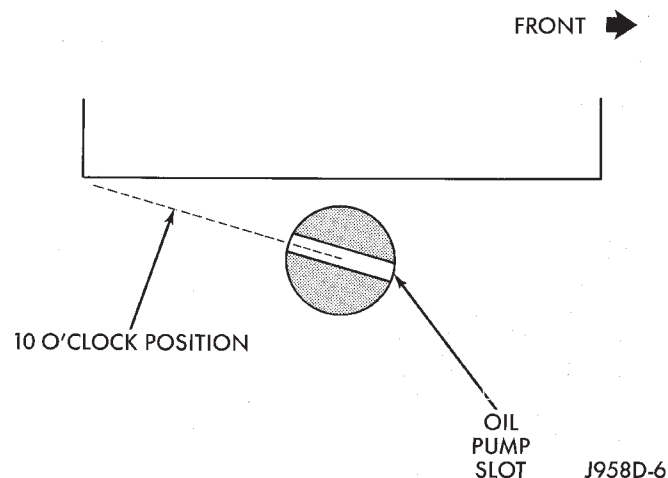
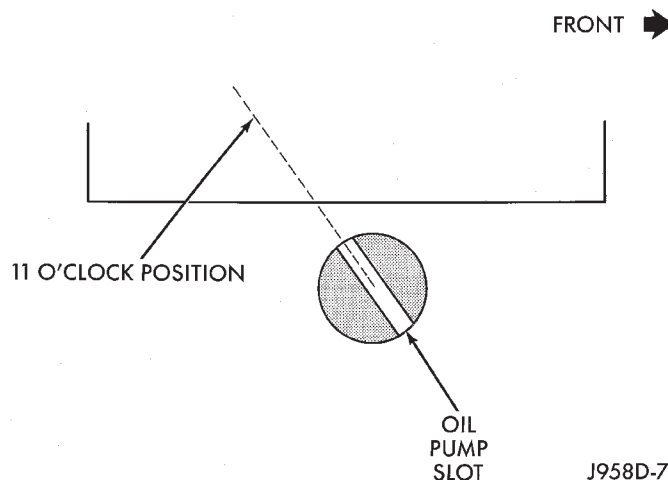

Fig. 36 Slot At 10 O'clock Position—2.5L Engine
Fig. 37 Slot At 11 O'clock Position—4.0L Engine
- (10) Remove the distributor holddown bolt and clamp.
- (11) Remove the distributor from engine by slowly lifting straight up.
- (12) Note that the rotor will rotate slightly in a counterclockwise direction while lifting up the distributor. The oil pump gear will also rotate slightly in a counterclockwise direction while lifting up the distributor. This is due to the helical cut gears on the distributor and camshaft.
- (13) Note the removed position of the rotor during distributor removal. During installation, this will be referred to as the Pre-position.
- (14) **2.5L 4-Cylinder Engine:** Observe the slot in the oil pump gear through the hole on the side of the engine. It should be slightly before (counterclockwise of) the 10 o'clock position (Fig. 36).
- (15) **4.0L 6-Cylinder Engine:** Observe the slot in the oil pump gear through the hole on the side of the engine. It should be slightly before (counterclockwise of) the 11 o'clock position (Fig. 37).
(1) If the engine crankshaft has been rotated after distributor removal, cylinder number 1 must be returned to its proper firing stroke. Refer to previous REMOVAL Step 5 and Step 6. These steps must be done before installing distributor.
(2) Check the position of the slot on the oil pump gear. On the 2.5L engine, it should be just slightly before (counterclockwise of) the 10 o'clock position (Fig. 36). On the 4.0L engine, it should be just slightly before (counterclockwise of) the 11 o'clock position (Fig. 37). If not, place a flat blade screwdriver into the oil pump gear and rotate it into the proper position.